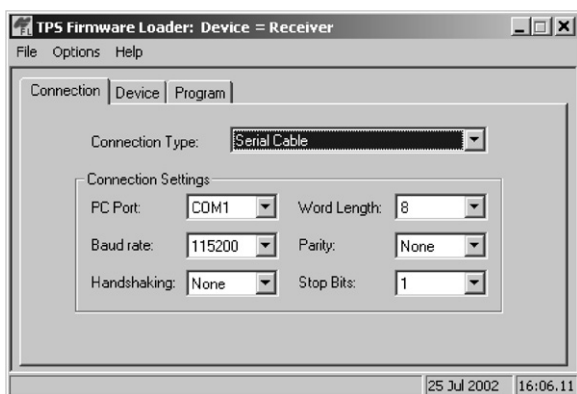

Figure 4-19. FLoader Main Screen
4. Activate FLoader (Figure 4-19).
5. On the Connection tab, select the COM port on the computer that connects with your receiver and select its speed (usually 115200) (Figure 4-19).